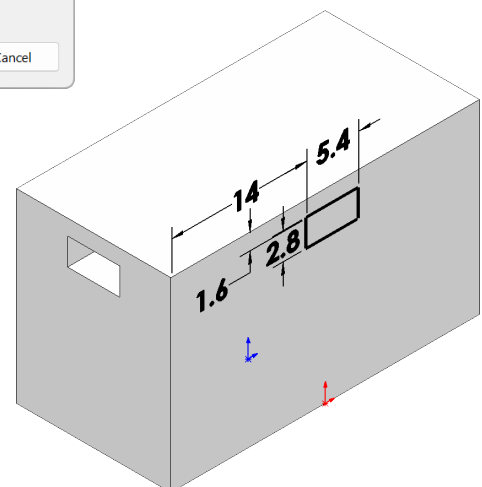

Fig. 15
Step 5. Click **Smart Dimension**  (S) on the Sketch toolbar.
Step 6. Add dimensions, **Fig. 15**.